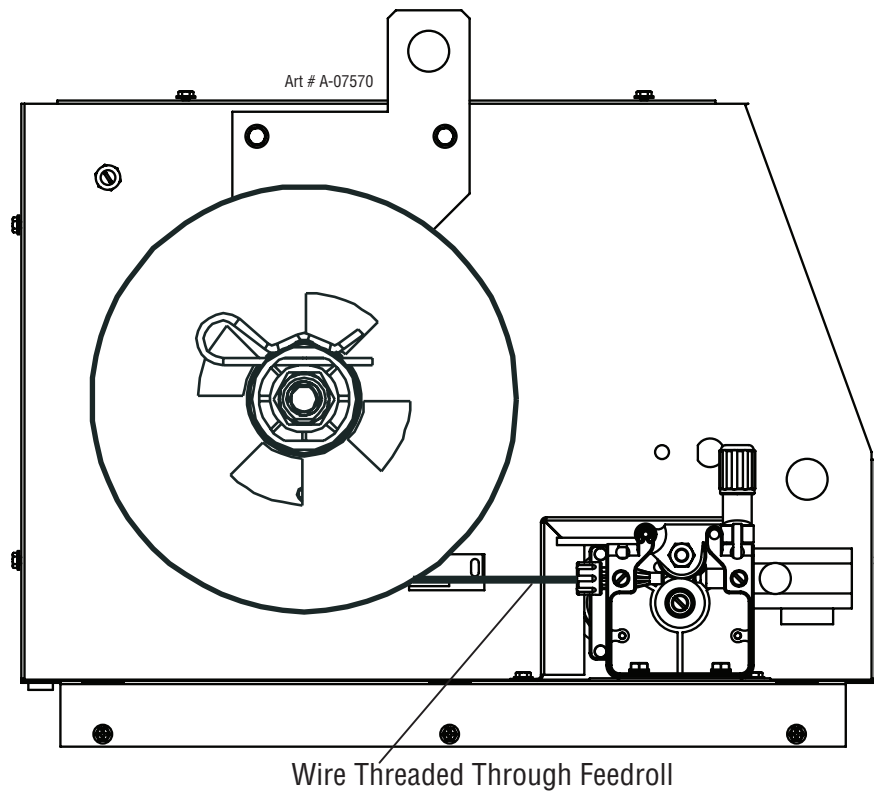

Figure 3-10: Wire Installed
4. Place end of wire into the Inlet Wire Guide, feeding it over the Feedroll. Make certain the proper groove is being used. (Fig. 3-10)
5. Pass the wire into the outlet guide then into the MIG Gun. (Fig. 3-10)
8. Figure 3-10 shows the result with wire installed.